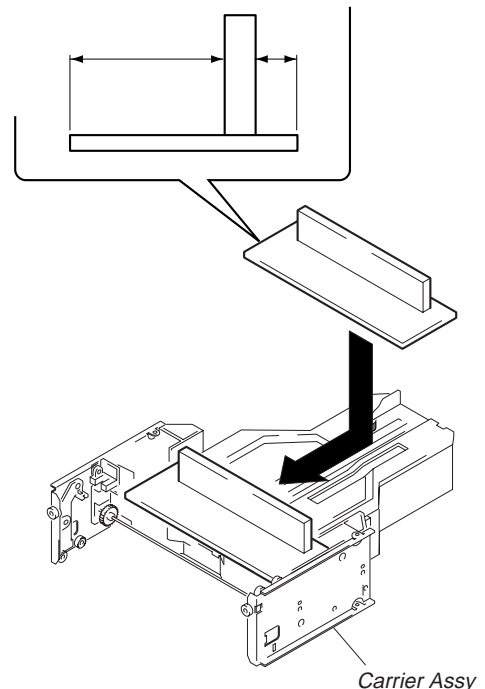

Fig. 1
- Set the longer side of the tool towards the disc case. (Fig. 1)